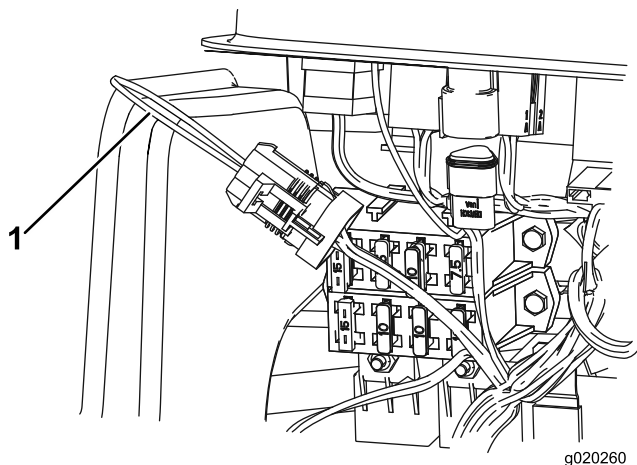

Figure 36
3. Locate the wire harness and loop back connector (Figure 36).